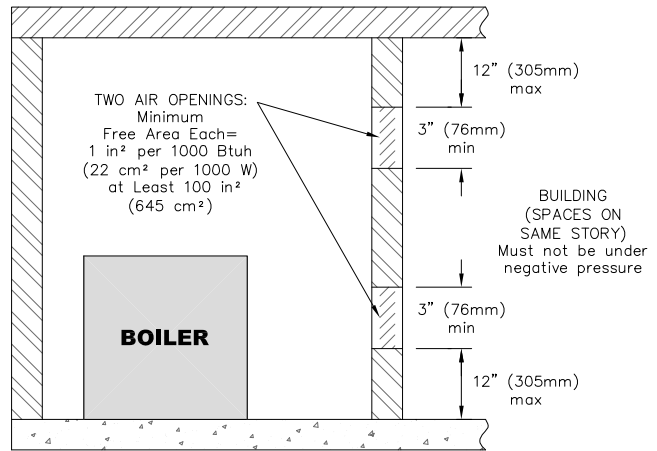

Figure 1.3: Air Openings – All Air from Indoors on the Same Floor
a. **Combining Spaces on the Same Floor:** Provide two permanent openings communicating with additional spaces that have a minimum free area of 1 in² per 1000 Btu/hr (22 cm² per 1000 W) of the total input rating of all gas fired equipment but not less than 100 in² (645 cm²). One opening is to begin within 12 inches (305 mm) from the top of the space and the other is to begin within 12 inches (305 mm) from the floor. The minimum dimension of either of these openings shall be 3 inches (76 mm). See Figure 1.3 for an illustration of this arrangement.